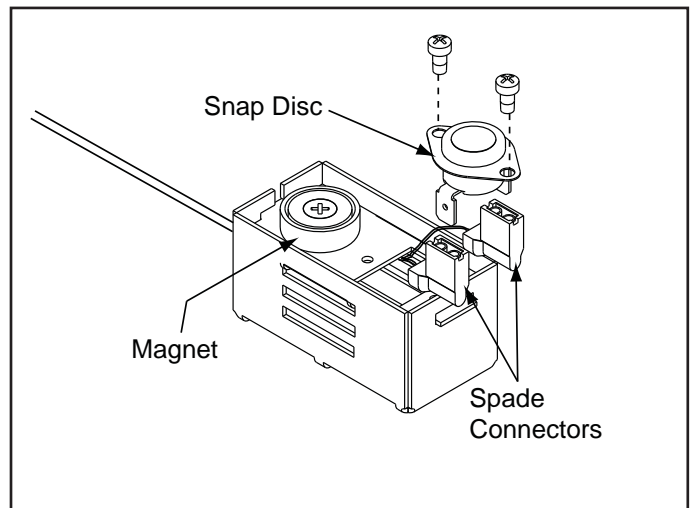

Figure 31.4
3. Pull the snap disc and spade connectors up and out of bracket as shown in **Figure 31.4.**